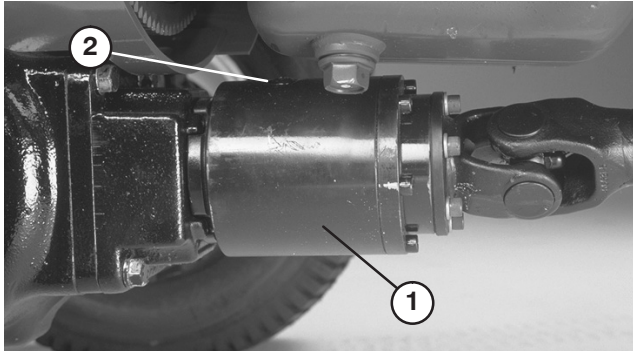

Figure 77
3. Rotate clutch so check plug is positioned downward (Fig. 77).